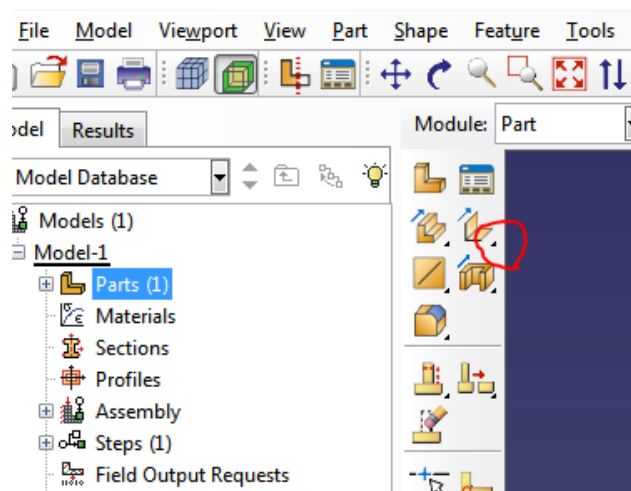

Figure 6. The small black triangle needed to find the **Create Shell: From Solid** tool
4. Convert the solid part to a shell model by the **Create Shell: From Solid** tool. The tool can be found by pressing the small black triangle marked by a red circle in Figure 6.